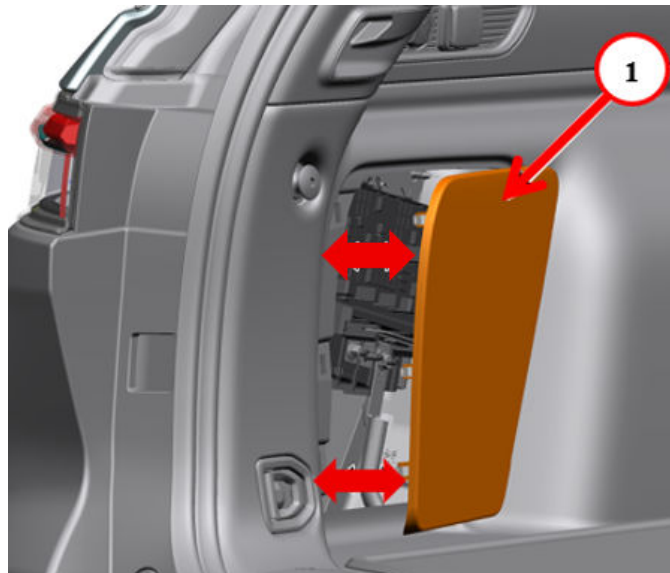

Fig. 1
2. Using a trim stick or equivalent, remove the left quarter trim panel access cover Fig. 1.
18. Install the left quarter trim panel access cover Fig. 1.